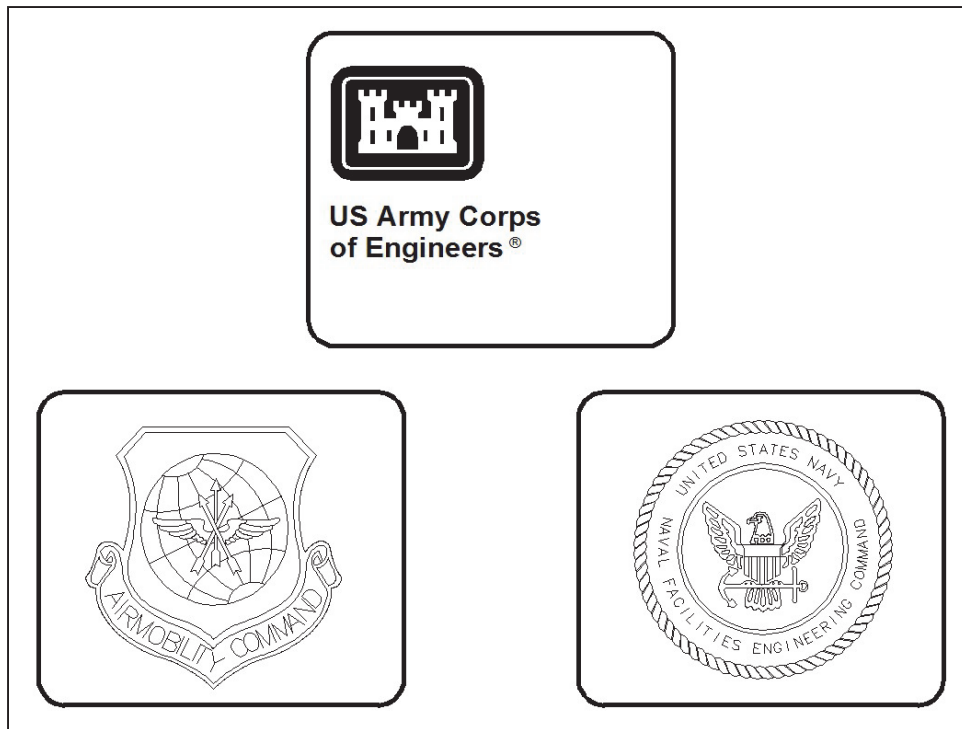

Figure 3-2. Designer identification block.
**Designer identification block.** The designer identification block (Figure 3-2) contains the logo or name of the agency that designed the sheet. This space could also be expanded by reducing the size of the issue block to accommodate professional seals when required.